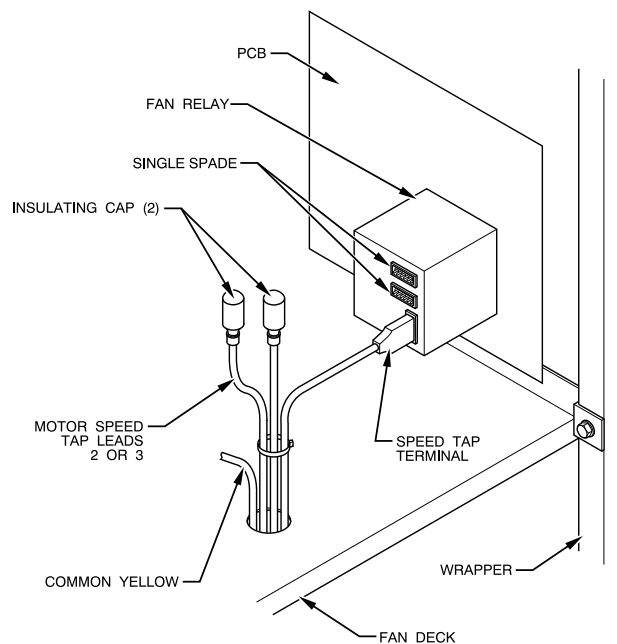

Fig. 16 – PSC Motor Speed Tap and Fan Relay
1. Speed tap selection is done at the fan relay. To change motor speeds, disconnect the fan lead on the relay and replace with the motor speed tap desired. Save the insulating cap and place it on the motor lead that was removed from the relay (Fig. 16). Refer to Table 4 for further clarification of speed tap selections.